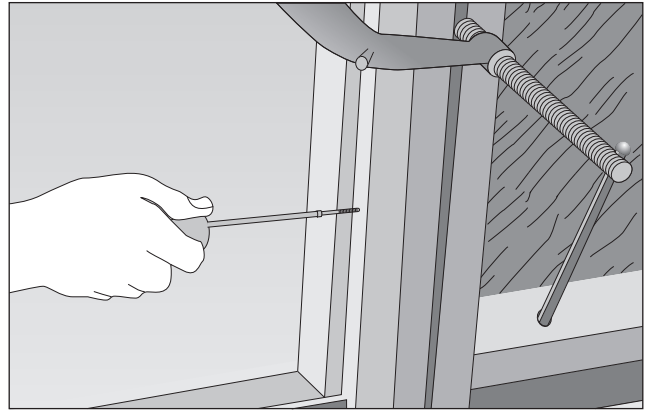

Fig. 9-155 Securing the door frame to the studs with screws. (Andersen.)
4. Side members on the Perma-Shield sliding doors have predrilled holes to receive 2½-inch No. 10 screws (Fig. 9-155). Shim at all screw holes between the door frame and the studs. Drill pilot holes into the studs. Secure the door frame to the studs with screws.